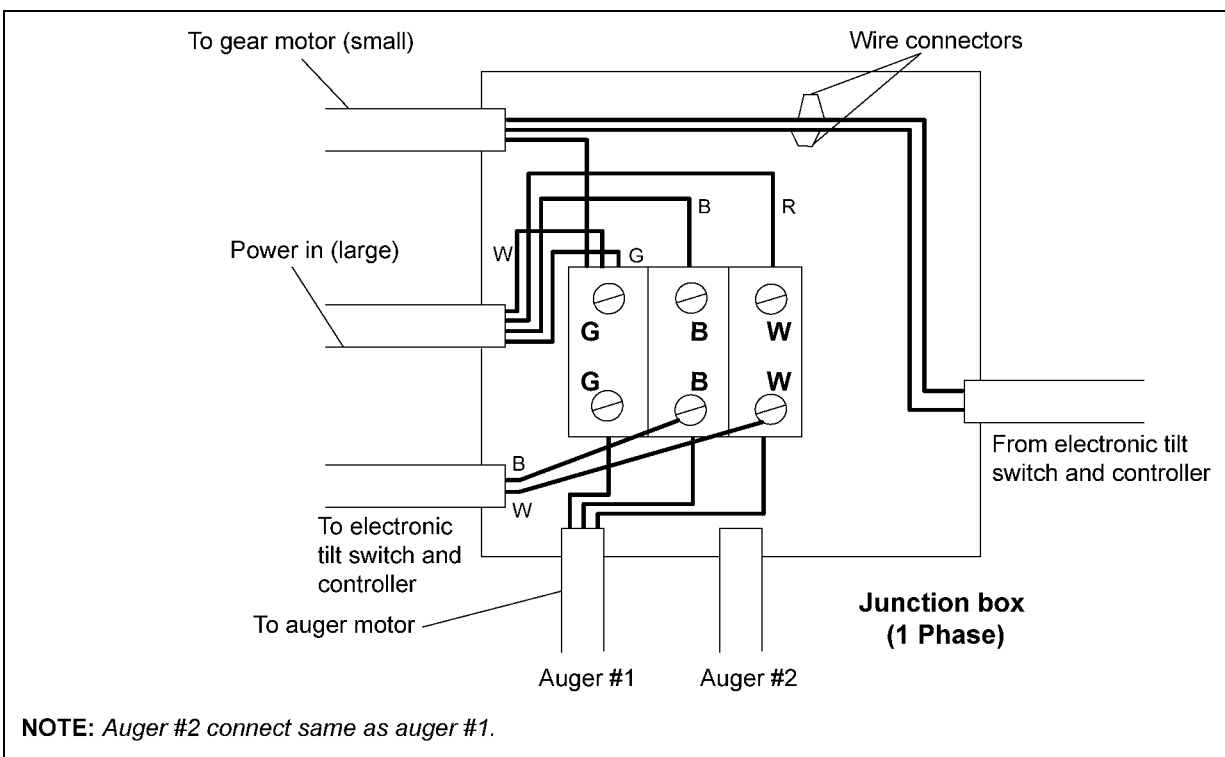

Figure 4AA Junction Box Wiring Diagram - 1 Phase
- After making electrical connections, **replace cover screw**. Secure electrical wires to wire support rod using two (2) wire ties. Trim excess. (See Figure 4AA.)